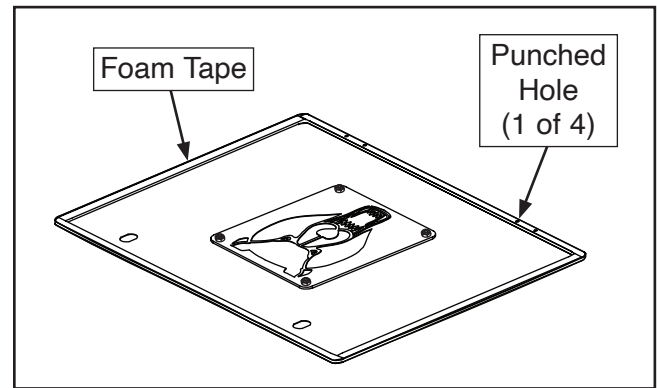

Figure 9. 3mm holes punched in foam tape.
3. Apply foam tape, aligning tape with edges of maintenance door (see **Figure 9**).
4. Use holes at bottom edge of maintenance door as a template to punch (4) 3mm holes in foam tape with 3mm punch tool (see **Figure 9**).